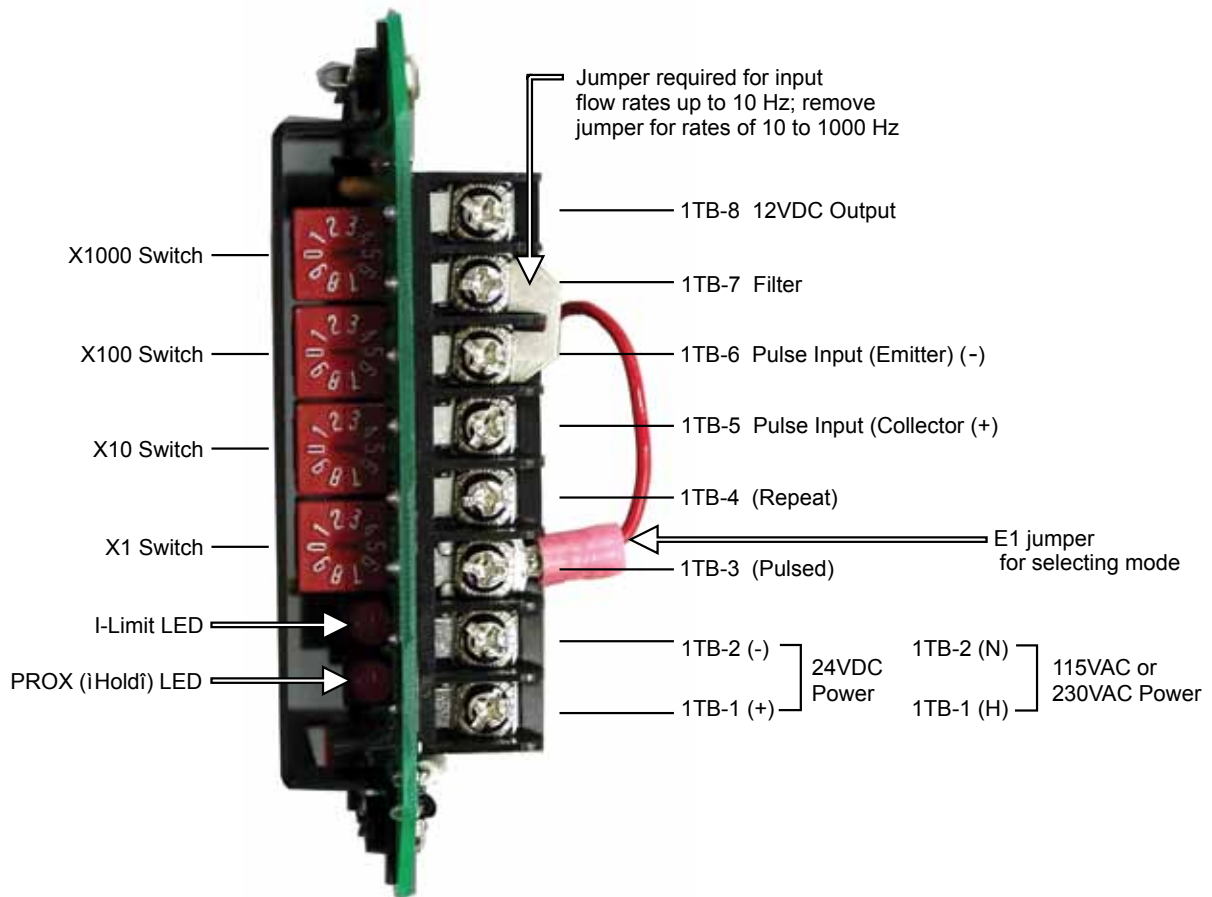

Figure 2.2—Field wiring of CD-20A controller
All field connections are made to terminal block 1TB on the control card (Figure 2.2). Install wiring as follows:
1. Connect jumper E1 to terminal 1TB-4 (Figure 2.2, page 9).
2. Move the E1 jumper to 1TB-3 to select the external pulse input mode (Figure 2.2, page 9).
3. Make sure the push-button switch is still connected to 1TB-5 and 1TB-6 (Figure 2.2, page 9).